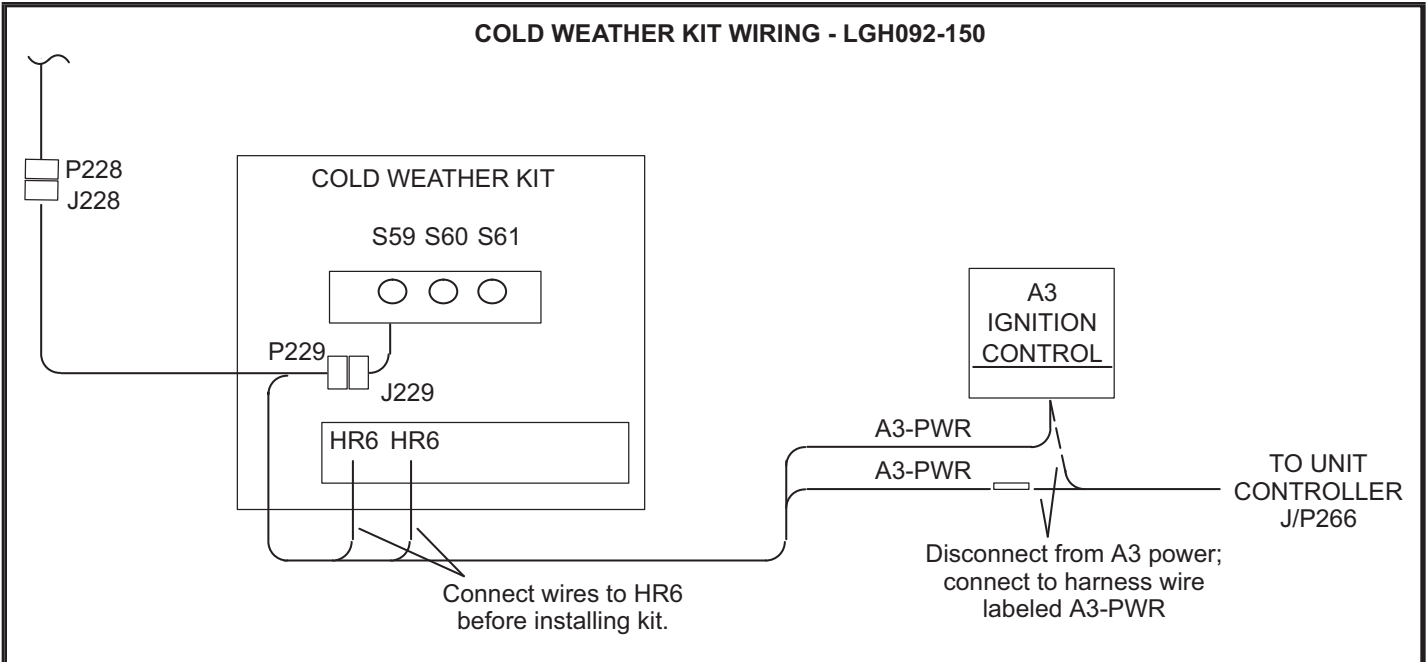

FIGURE 1
- 2 - Locate the kit harness labeled 604954-01 kit harness. Remove cold weather kit cover and connect wires labeled HR6 to the cold weather assembly. See figure 1. Replace cold weather kit cover. Discard harness labeled 604956-01 provided in kit
- 4 - Route the remaining harness wires as shown in figure 2. Make wire connections as shown in figure 1.